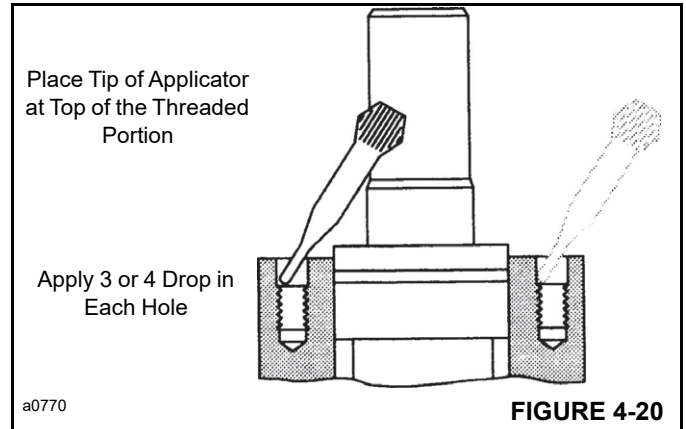

FIGURE 4-20
9. Apply 3 or 4 drops of Loctite sealant at the top of the threads for each of the four holes in the housing (see Figure 4-20). Do not allow parts with Loctite to come in